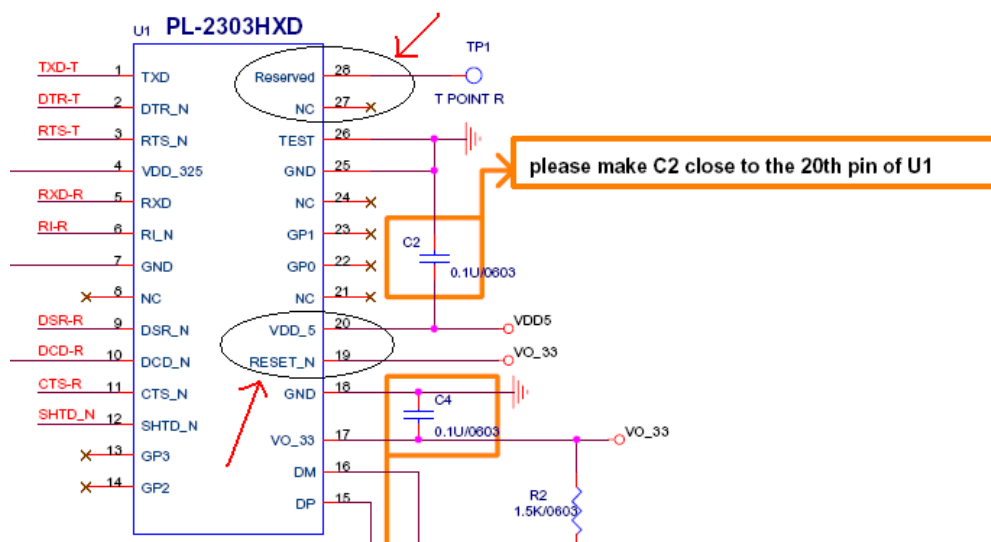

Figure-1: PL-2303HxD Schematic Diagram Reference
- If the PCB layout was designed with Pin 19 as NC, you can short Pin 19 (RESET_N) to Pin 20 (VDD_5). Pin 19 is 5V tolerant. Otherwise, the PCB needs to be re-layout. See Figure-1 below.